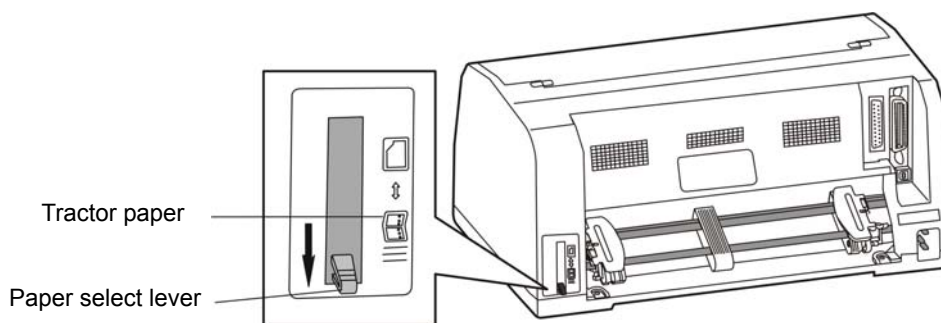

Figure 3-7 Setting the paper select lever (tractor paper)
2. Set paper select lever at the position of tractor paper as shown in Figure 3-7.